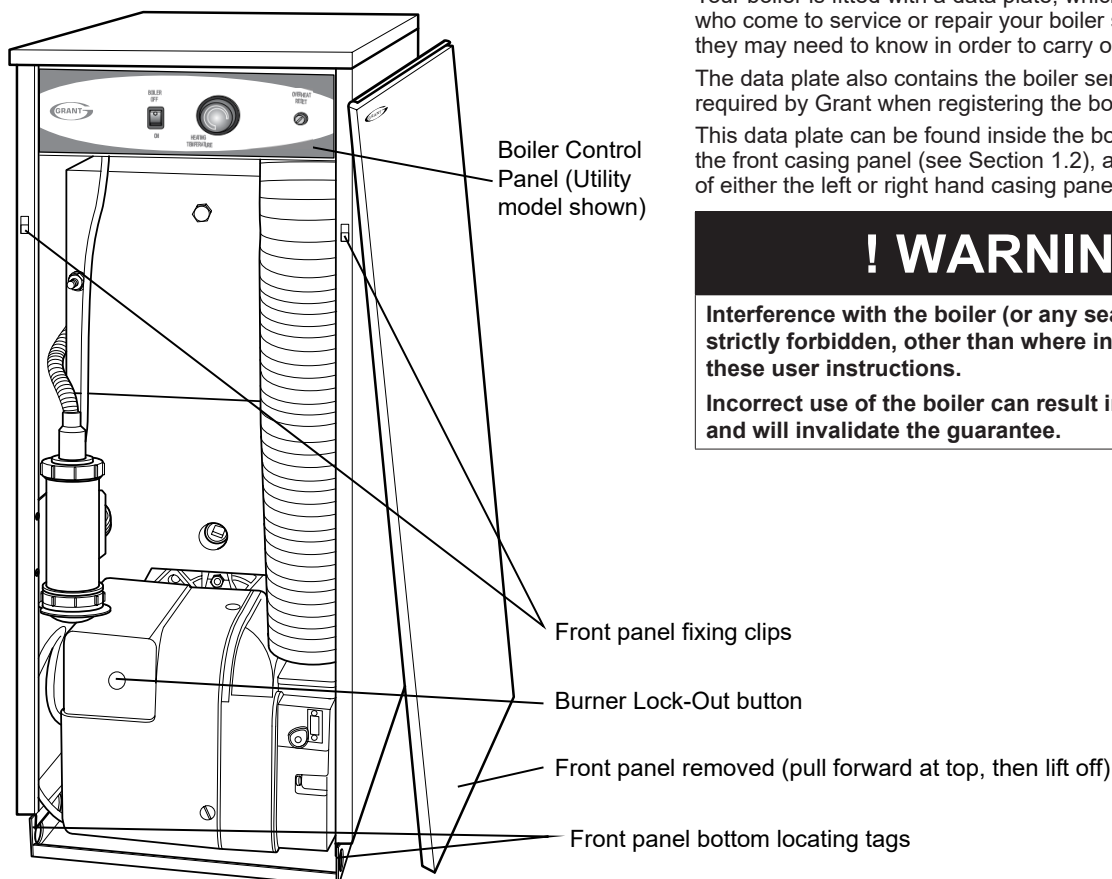
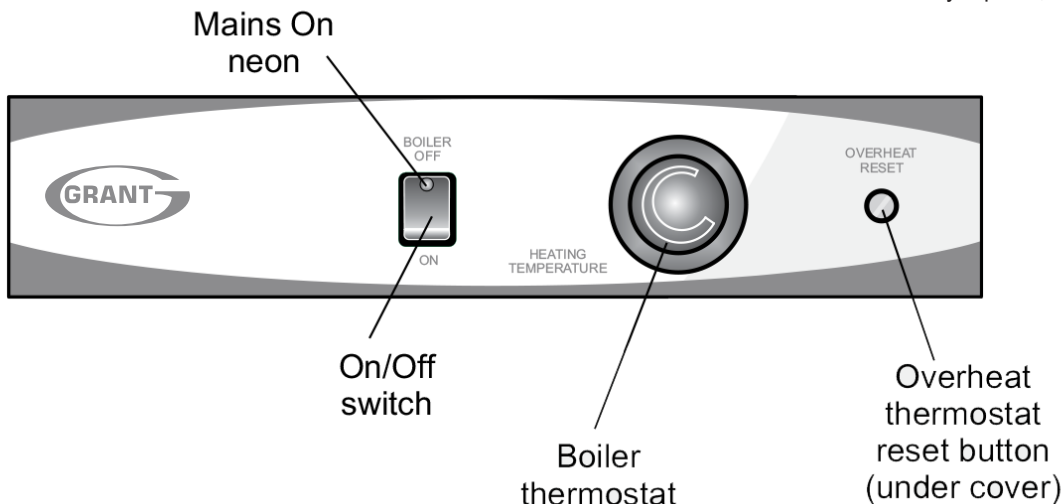

Figure 1-1: Boiler components
Figure 2-1: Vortex Condensing Utility boiler control panel
Kitchen/Utility boilers have a 'mains on' neon, see Figure 2-1, which lights when the boiler is switched on.
To gain access to the boiler controls, pull the front panel forward at the top to disengage the fixing clips, then lift it up and off the boiler, as shown in Figure 1-1.
4. Check if the burner 'Lock-Out' reset button on the burner body (refer to Figure 1-1 for location) is lit.
Refer to Figure 1-1 for the location of the control panel within the boiler casing and Figure 2-1 for the details of the control panel.
To reset the overheat thermostat, unscrew the small plastic cap marked "reset" (see Figure 2-1), press the button and replace the cap.